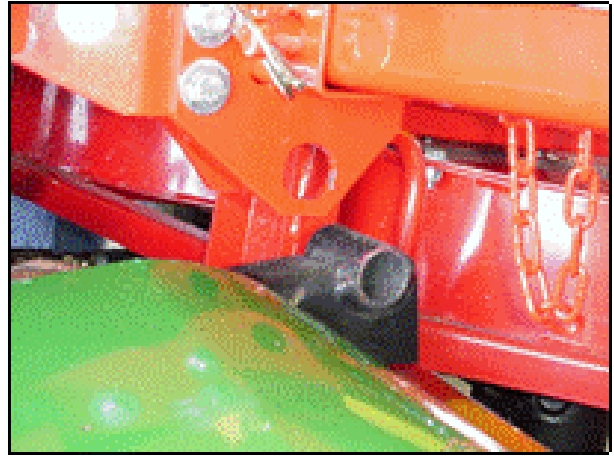

Figure 8: Mounting brackets at ProPass rear
3. Stop when the left rear mounting bracket on the frame rail of the work vehicle is located directly under and between the mounting bracket arms at the left rear of the ProPass (Figure 8).